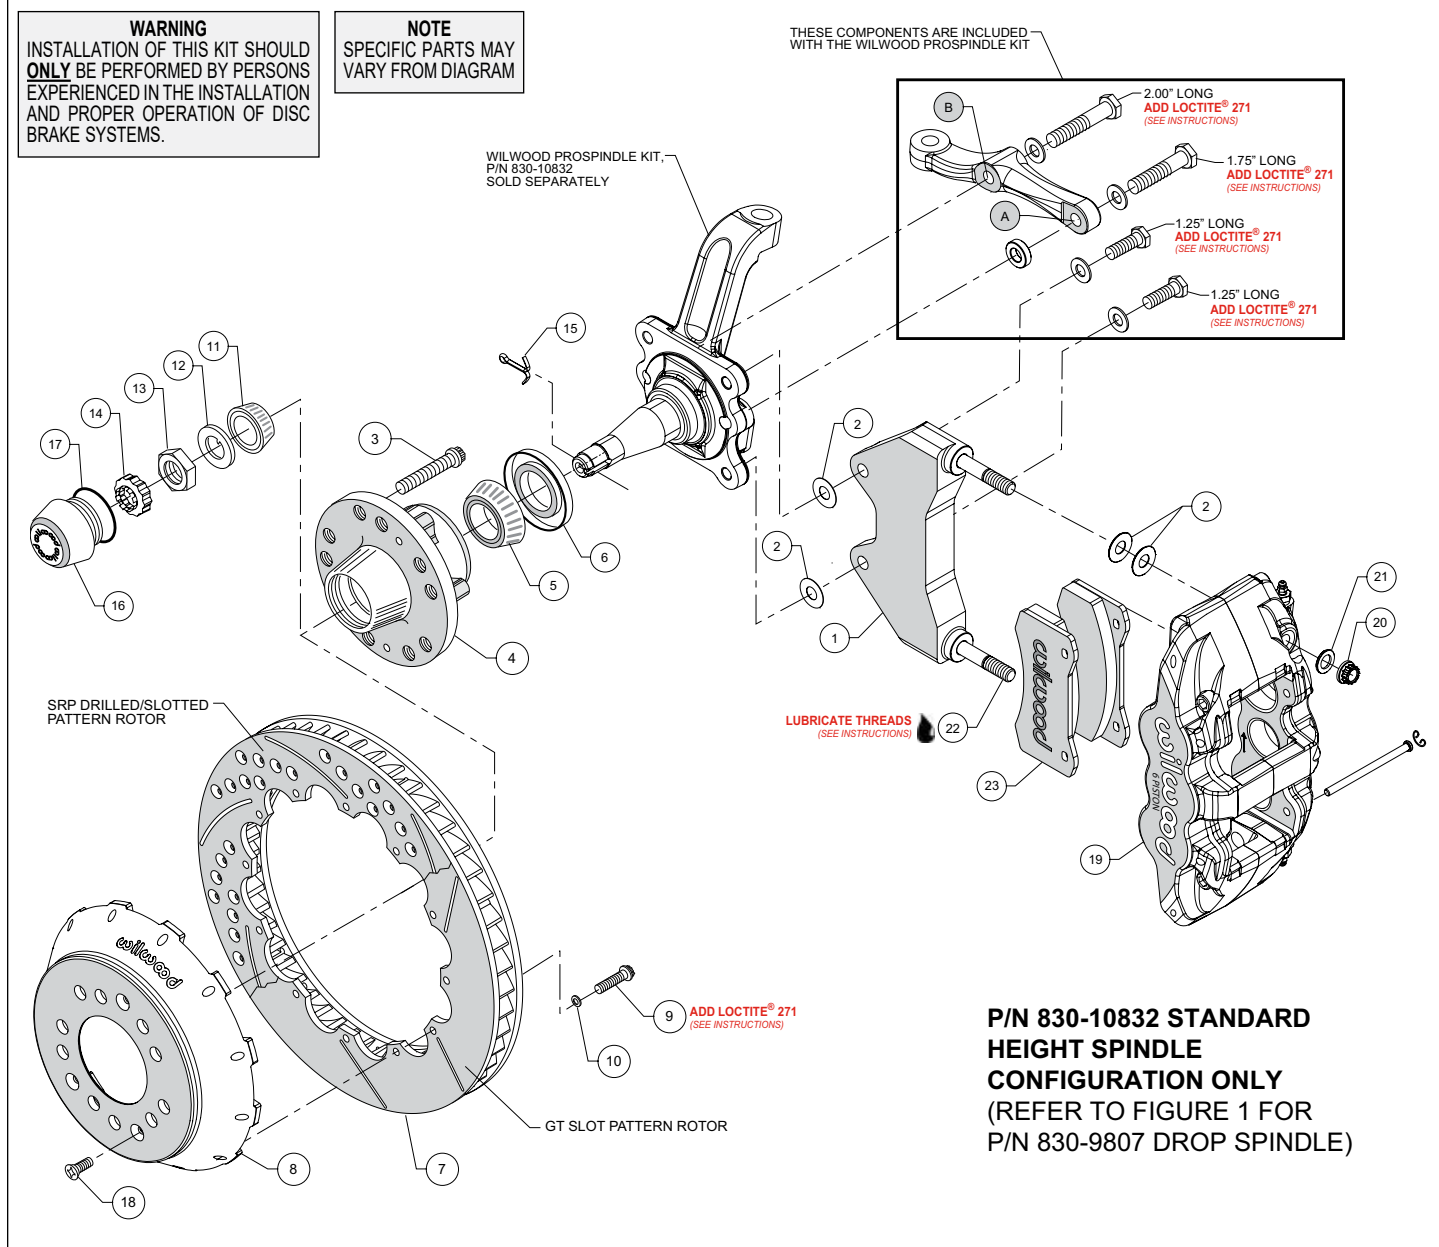

Figure 2. Installation Configuration For Standard Height Spindle, P/N 830-10832
**For Standard Height ProSpindle (P/N 830-10832):** The caliper bracket assembly (1) should initially be installed with clean, dry threads on the mounting bolts.
- Orient the bracket as shown in Figure 2 and Photo 2. Install using 1.25" long bolts and .06" thick washers (from ProSpindle kit), and one .030" thick shim (2) on each bolt between the bracket and spindle, Figure 2. Temporarily tighten mounting bolts. **NOTE:** The bracket must fit squarely against the mounting points on the spindle. Inspect for interference from casting irregularities, machining ridges, burrs, etc. Later, after the caliper alignment has been checked, the mount bolts will be secured using red Loctite® 271.
- Orient the steering arm, and identify the hole marked 'A', as shown in Figure 2. Install using 1.75" long bolt, .06" thick washer, and .30" thick spacer (all from ProSpindle kit), Figure 2.
- Finish attaching the steering arm through the hole marked 'B', as shown in Figure 2. Install using 2.00" long bolt and .06" thick washer (from ProSpindle kit), Figure 2.